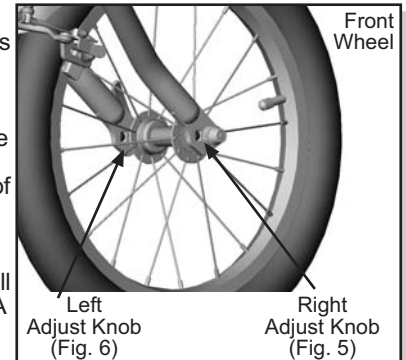

Fig. 4. Adjust Knobs
7) Fine tune tracking of stroller is accomplished by using the adjustment knobs shown in Fig. 4.